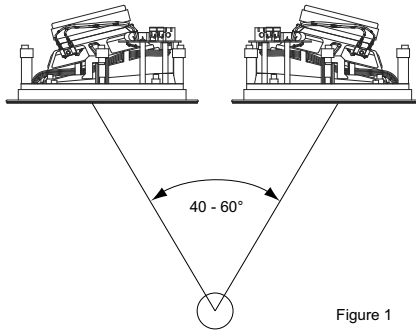

Figure 1
2. Speakers must be spaced at a 40 - 60° angle from listener, as illustrated in Figure 1.